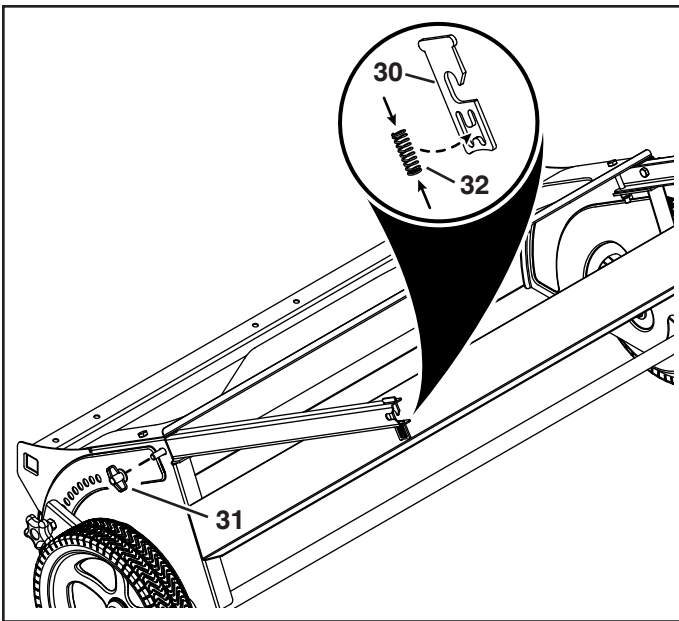

FIGURE 3
- Secure each bag arm channel to the side of the sweeper housing with a plastic wing nut (31) installed onto the bolt assembled in step 1. See figure 3.
- Insert a pivot rod retainer (30) down into the end of each bag arm channel. See figure 3.
- Install a compression spring (32) into the bottom of each of the pivot rod retainers to secure them to the bag arm channels. See figure 3.